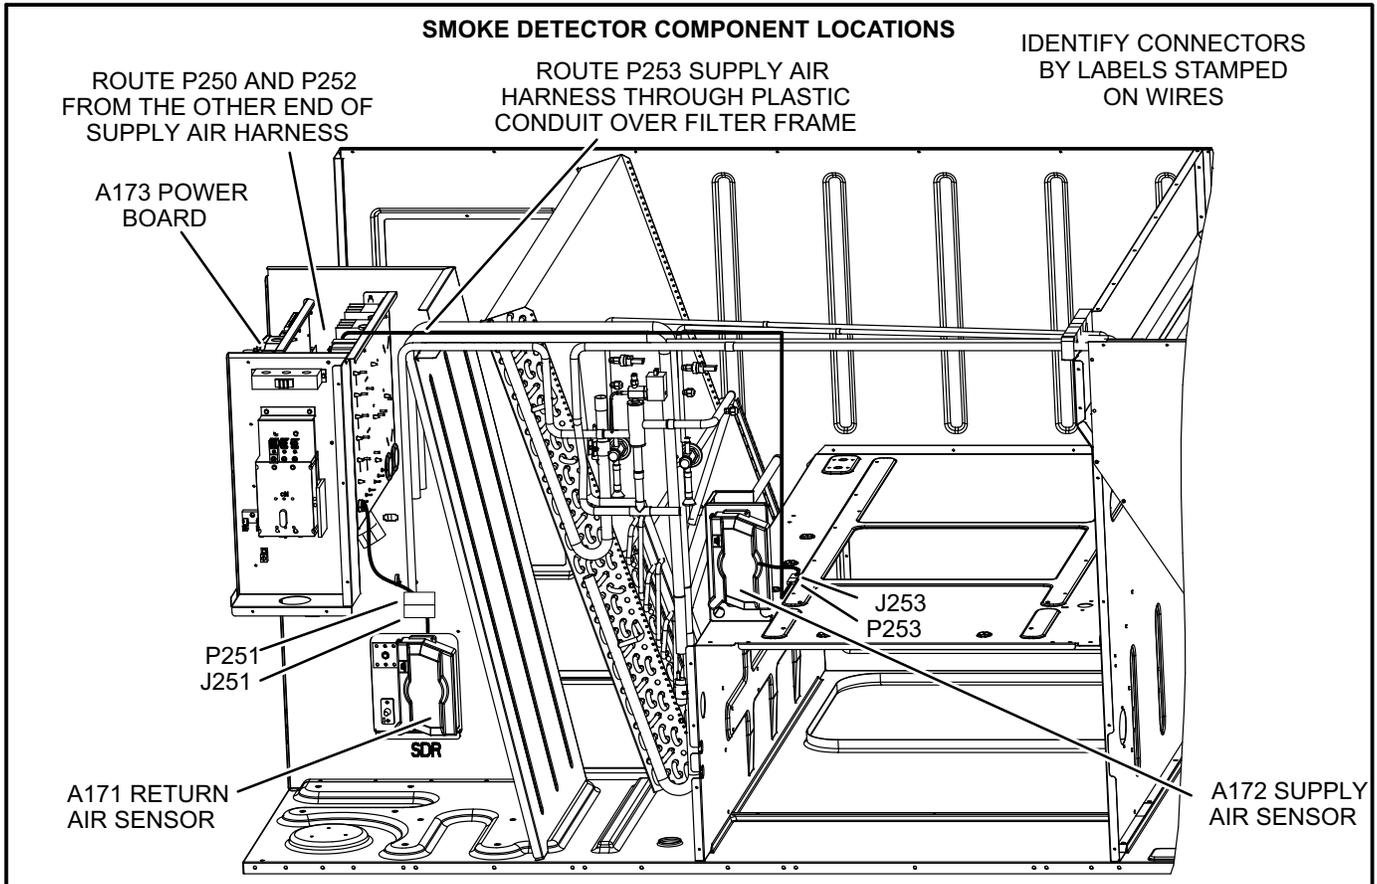
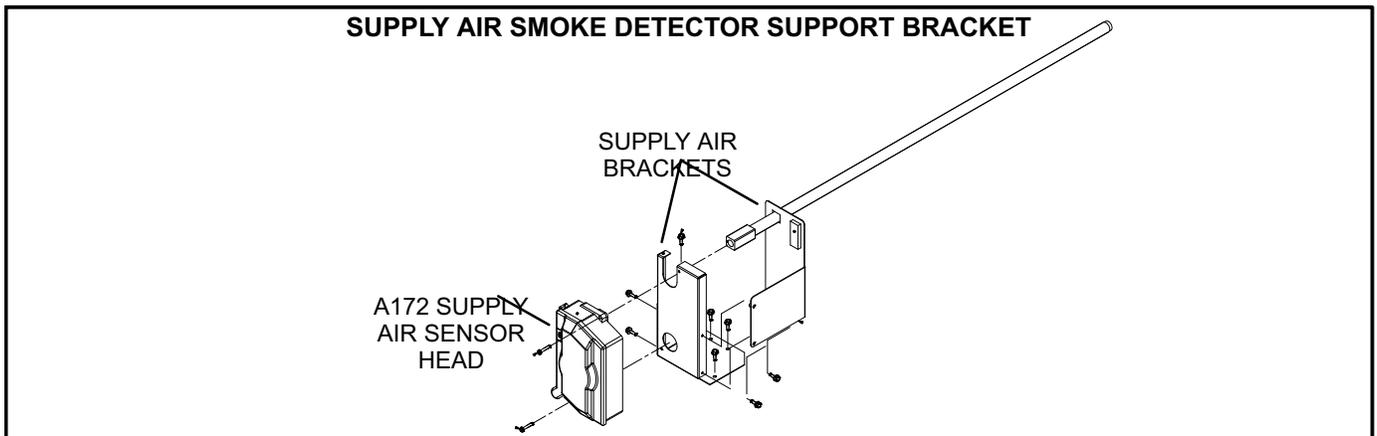

FIGURE 1
FIGURE 2
Use manufacturer's instructions provided with smoke detector to install sensor(s) and power board. Refer to figure 1 for location of power board, supply air sensor and return air sensor. See figure 2 to assemble the supply air bracket.
- 1 - Supply air smoke detector installations -- Route harness wires across the top of the unit. Secure wires to existing bundle and route from the control area to the blower compartment as shown in figure 1. Take care to secure wires away from other components.